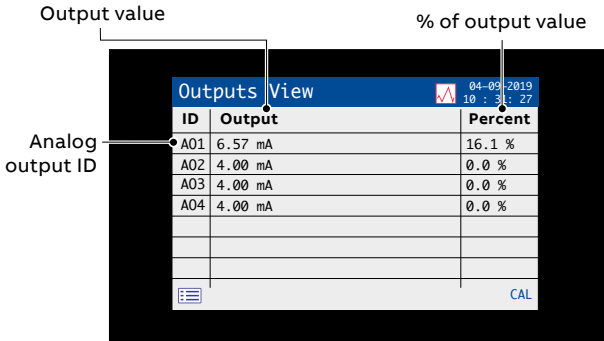

Figure 11 Outputs View
- **Outputs View** – displays a list of the analog outputs, output value and percentage of output value – see Figure 11